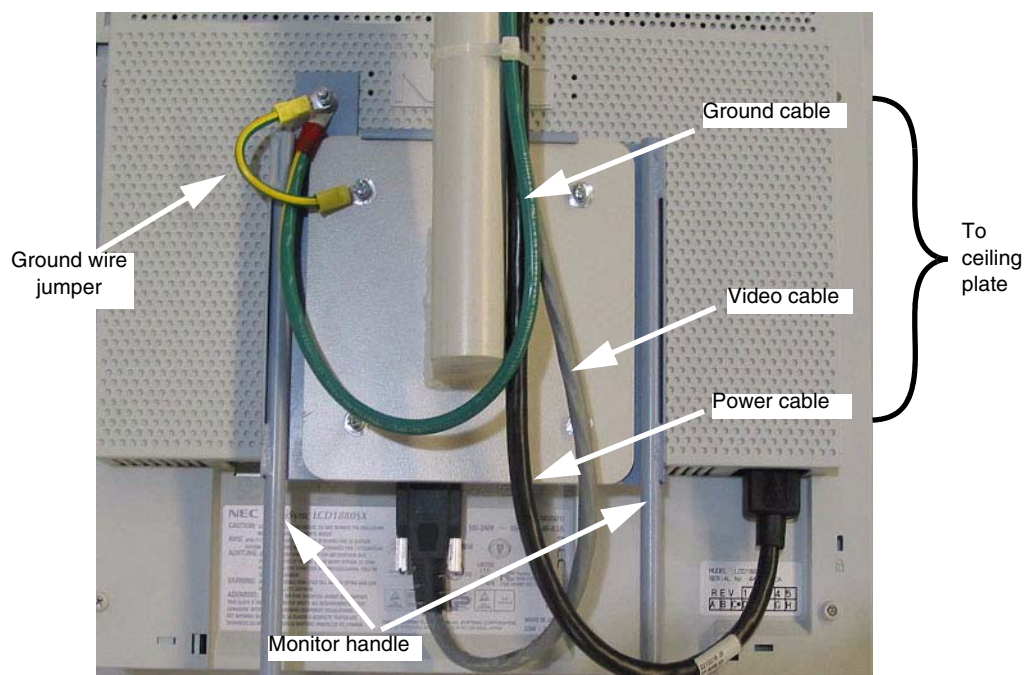

Figure 2-25 Monitor Cabling
- 3.) Attach the video cable and the power cable to the rear of the LCD monitor as shown in Figure 2-25.